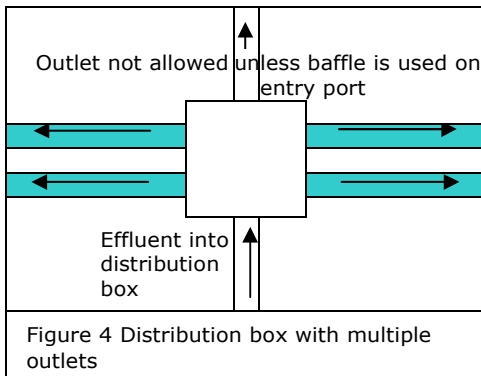

Figure 2: Distribution Box (D-Box) Detail (Source: <https://www.doh.wa.gov/Portals/1/Documents/Pubs/337-122.pdf>)
- The exit port of the distribution box opposite the entry port shall not be utilized unless an internal baffle is utilized (Figure 2).